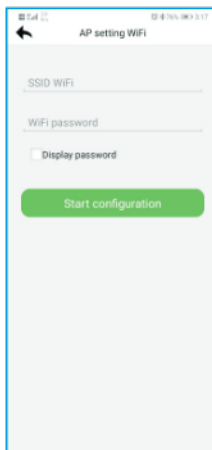

Fig. 5-12
**Step 2:** Enter the available WiFi name and password in the hotspot setting WiFi interface (Fig. 5-12) , click to start configuration, and the pop-up window prompts the operation steps. (Fig. 5-13)